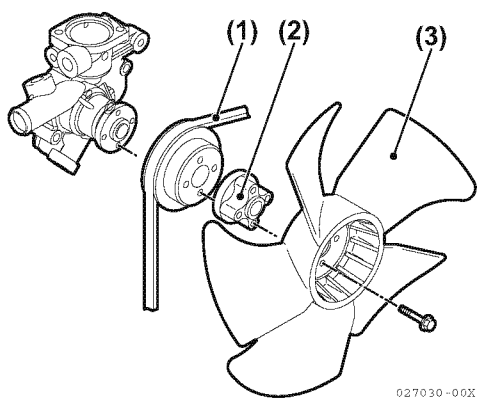

Figure 9-9
7. Install the cooling water pump V-pulley (**Figure 9-9, (1)**), spacer (**Figure 9-9, (2)**), cooling water fan (**Figure 9-9, (3)**), and fan guard (if equipped).